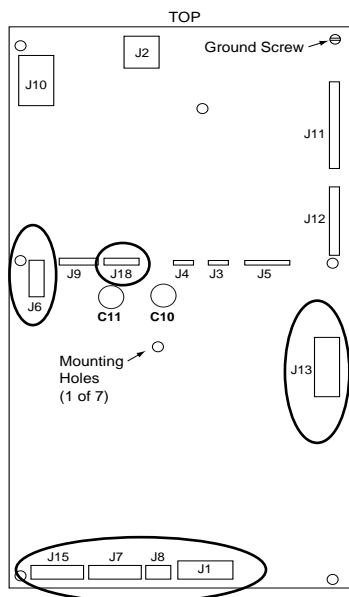
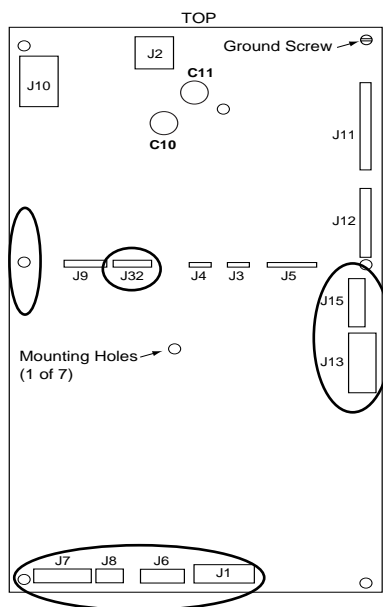

Figure 4.3.12: Previous PB Series
Figure 4.3.13: Current PB Series
When the power board is damaged, voltage may remain on the C10 and C11 power board energy storage capacitors (see Figure 4.3.12 and Figure 4.3.13 on page 4.3.21 for location of capacitors).
3. On the power board, locate jacks J3, J4 and J5 (see Figure 4.3.12 or Figure 4.3.13 on page 4.3.21). If the power board is of the series illustrated in Figure 4.3.12, refer to Figure 4.3.8 on page 4.3.14 for cable clasp operation. If the power board is of the series illustrated in Figure 4.3.13, carefully lift the gray cable clasps to their released position. Remove the three flex cables.
4. Consult Figures 4.3.12 and 4.3.13 to determine which package of cables to use:
- If the power board is of the series illustrated in Figure 4.3.12, use the flex cables in the package labeled A. These cables have the silver foil (located on the ends of the cables) exposed on the same side of each cable. Discard the package labeled B. Insert the new flex cables at J3, J4 and J5 on the power board. Before installing the connections, set the cable clasps to the release position. Position the flex cables so that the silver foil is facing towards the top of the power board and are firmly seated against the bottom of the connector jacks. Push the cable clasps to their secure position.
- If the power board is of the series illustrated in Figure 4.3.13, use the flex cables in the package labeled B. These cables have the silver foil (located on the ends of the cables) exposed on the opposite sides of each cable. Discard the package labeled A. Insert the new flex cables at J3, J4 and J5 on the power board. Before installing the connections, set the cable clasps to the release position. Position the flex cables so the silver foil is facing towards the bottom of the power board and are firmly seated against the bottom of the connector jacks. Push the cable clasps to their secure position.
- The connector jack labeled J18 on the power board illustrated in Figure 4.3.12 is labeled J32 on the power board illustrated in Figure 4.3.12A. The two connector jacks are electrically equivalent. When the power board is properly installed, they are both connected to jack J32 on the control basket.
4. Carefully disconnect the cables attached at connector jacks J1, J2, J6, J7, J8, J9, J10, J11, J12, J13, J15 and J32 (or J18) on the power board (see Figure 4.3.12 or Figure 4.3.13 for connector jack locations). Save the cables labeled P9 and P32 (or P18) for installation on the new power board.
8. Install the cables removed from the old power board at the J9 and J32 connector jacks on the new power board (see Figure 4.3.13).
11. Install the connections at jacks J1, J2, J7, J8, J10, J11, J12 and J13 on the power board. Refer to Figure 4.3.13 for connector jack locations. When installing the connection at J11, align the connector sockets with the pins on the power board.
12. Install the connection to the J5 connector jack on the right side of the board. Refer to Figure 4.3.13. Wire tie cable P15 to the control basket frame as needed.
13. If the power board removed was of the series illustrated in Figure 4.3.12, mate the adapter cable 52021-179-50 (supplied with the new power board) to the existing P6 cable, ensuring a good connection.
14. Install the P6 cable, or the other end of the adapter cable referred to in step 6, in the J6 connector jack at the bottom edge of the power board (see Figure 4.3.13). Wire tie the adapter cable (if installed) to the existing cable harnesses at the connector jacks J7 and J8.